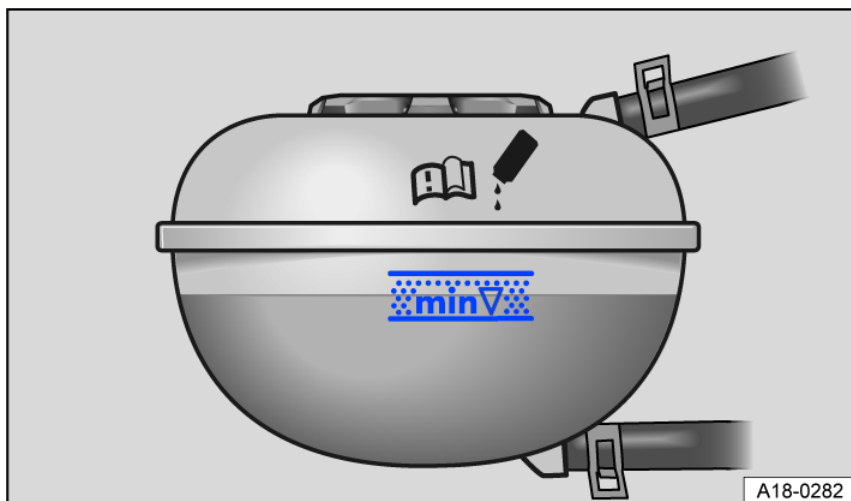

Fig. 157 In the engine compartment: markings on the engine coolant expansion tank.
- When the engine is cold, check the coolant level using the markings on the side of the engine coolant expansion tank fig. 157. The coolant level must be between the markings.
- After topping up the coolant, the coolant level must be between the markings on the coolant expansion tank *fig. 157*.